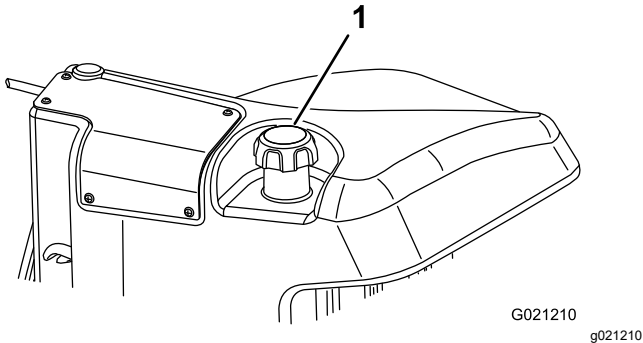

Figure 47
3. Remove the cap from the fuel tank (Figure 47).